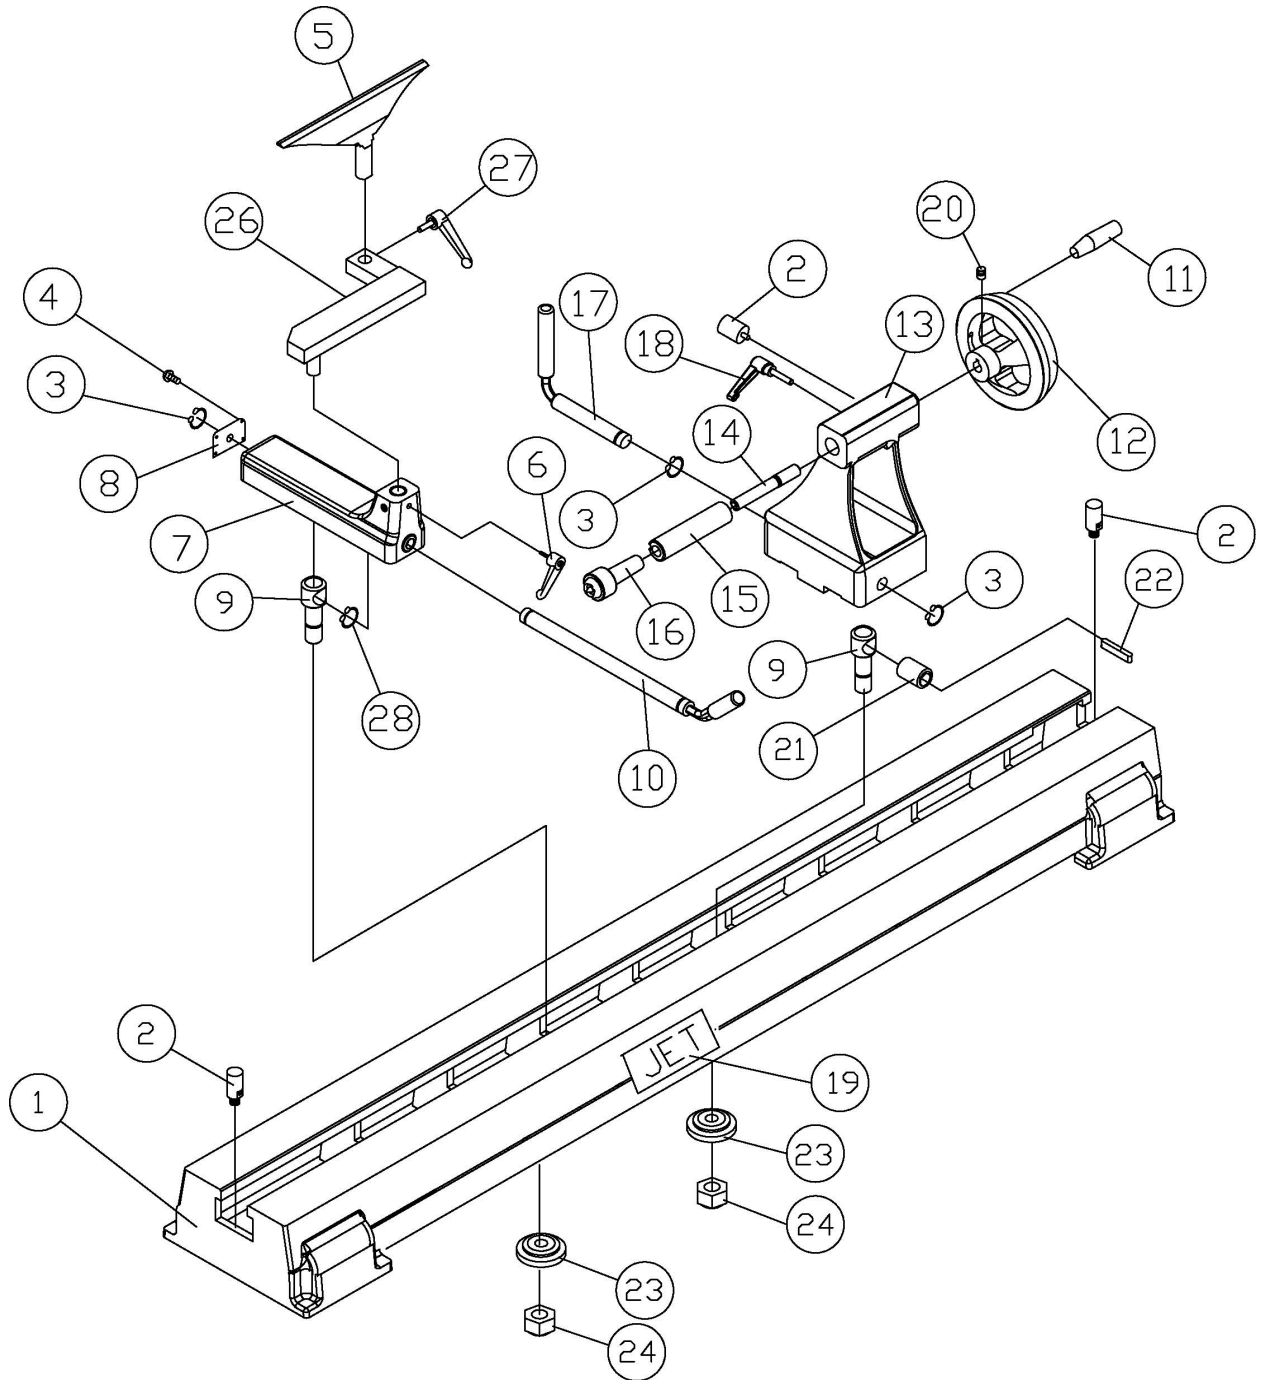

Fig. 25
7. Use a wood dowel, or aluminum stock to knock the spindle towards the tailstock. *Use a material that is softer than the spindle so you do not mushroom the end of the spindle.* Go only far enough to remove the right hand pulley and belt from spindle, see Figure 25 when changing the belt. **Note:** Mark the key way on the pulley for easy reference when reassembling.